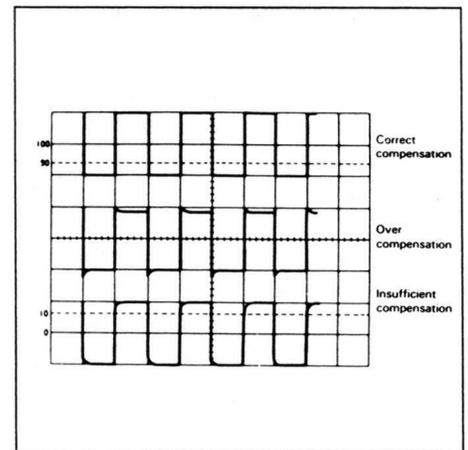

Fig. 20. Probe compensation adjustment
(Refer to Fig. 20)
3. Adjust the compensation trimmer on the probe for the optimum square wave (see Fig. 20 for illustration showing minimum overshoot, rounding off, and tilt).